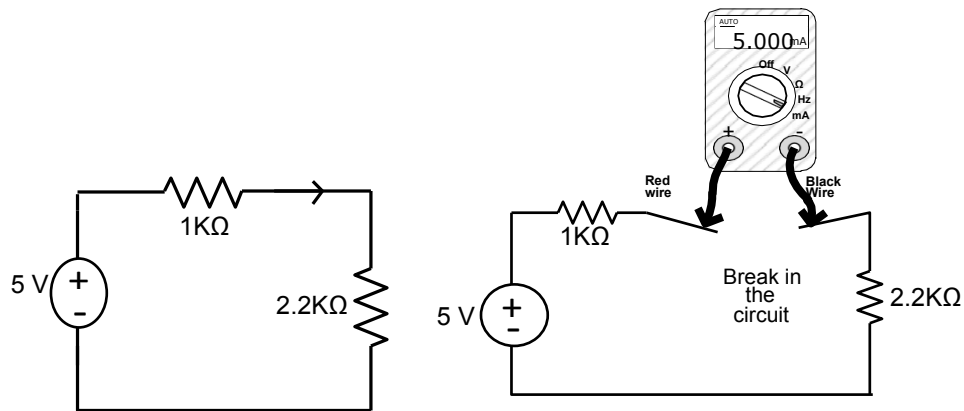

Figure 1.5: Circuit diagram and actual connection for measuring current
- 1.To measure the current in the series circuit in Fig 1.5 construct the circuit and then create a break the circuit as shown in Fig 1.5
- 3.Connect the red and black multimeter lead as shown in the Fig 1.5 (in series with the circuit)